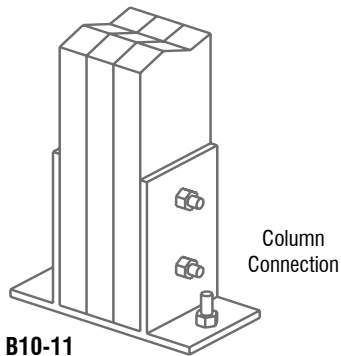

FIGURE B10-11
- b) Columns bearing on a concrete foundation shall be attached to prevent horizontal movement of column base as specified by the Building Designer in the Construction Documents (Figure B10-11).